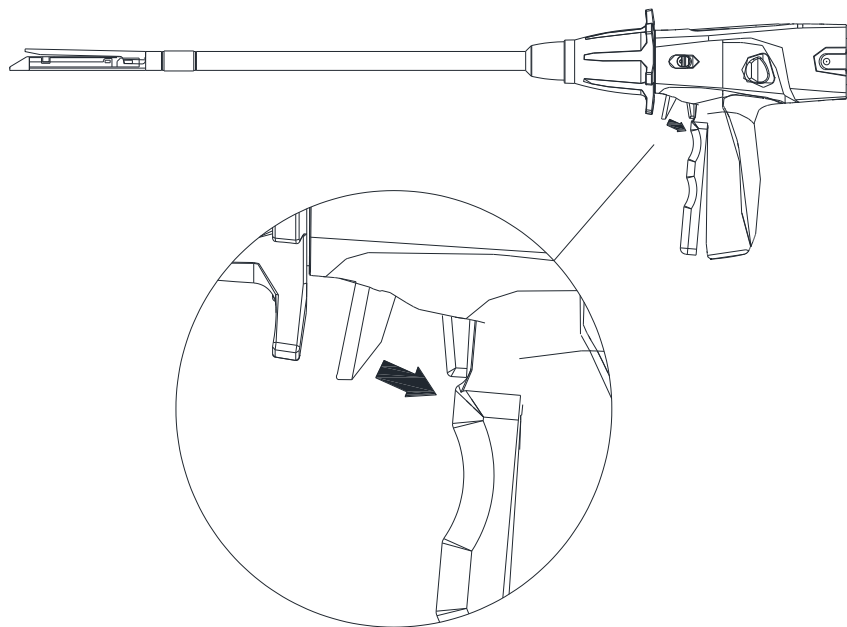

Figure 3-17
- 9) Pull the firing trigger to fire the device. At this time, the motor starting sound will be heard (Figure 3-17). Continue to press the firing trigger until the motor stops (audible feedback). Alternatively, for enhance tissue compression, the user can pulse pull the firing trigger throughout the firing cycle until the crosscutting is completed.